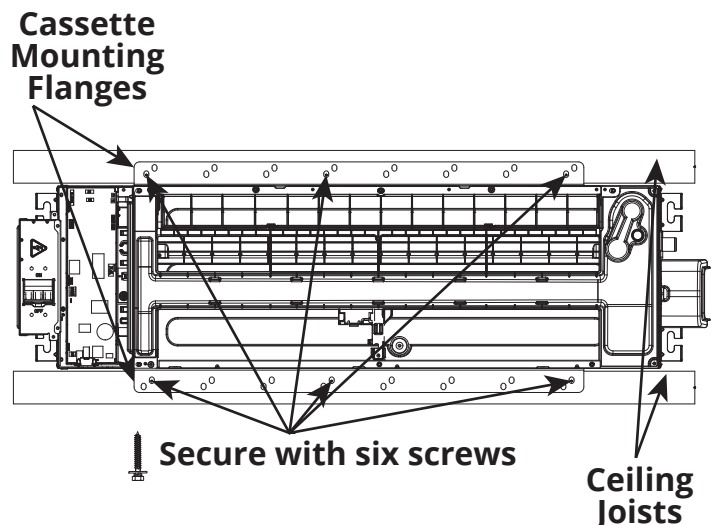

Fig. 5.13
- Then, mount the unit to the ceiling joists by installing six ST8.0\*50 screws (3 per side) through the holes of the unit mounting flanges and into the ceiling joists. Ensure the screws are fully threaded into the joist and will not loosen over time (see Fig 5.13). **NOTE: Eight ST8.0\*50 screws provided, but only six are needed to complete this step. The remaining two screws are to be kept as spares.**